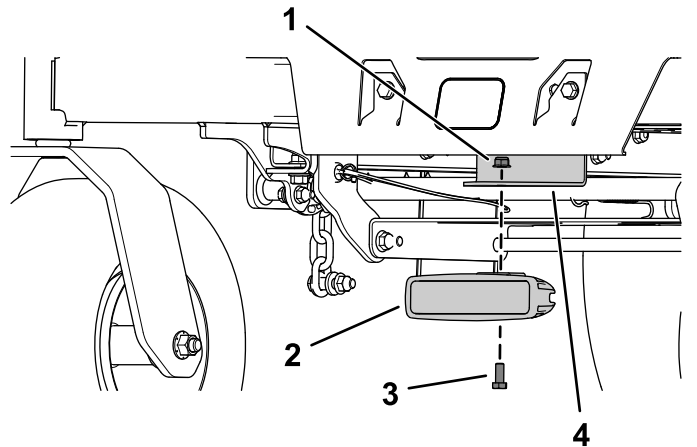

Figure 4
4. Secure the LED light to the front light bracket using a hex-head bolt (5/16 x 3/4 inch) and flange nut (5/16 inch) as shown in Figure 4.